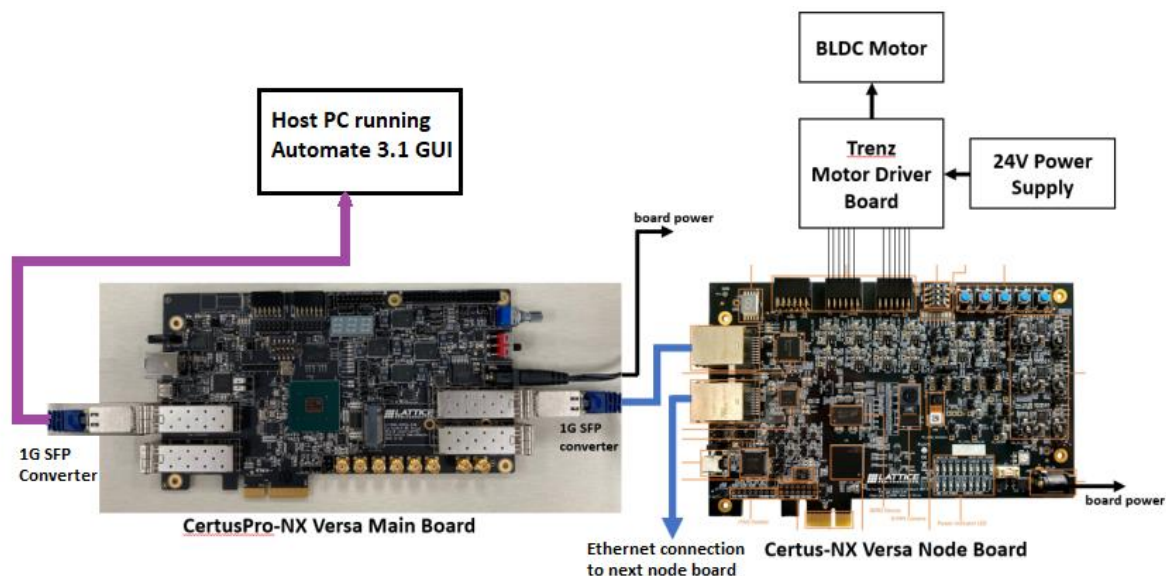

Figure 4.1. System Setup with Host PC (Example with One Node)
The details of the hardware connections are illustrated in Figure 4.1.
1. Hardware should be connected properly as shown in Figure 4.1.